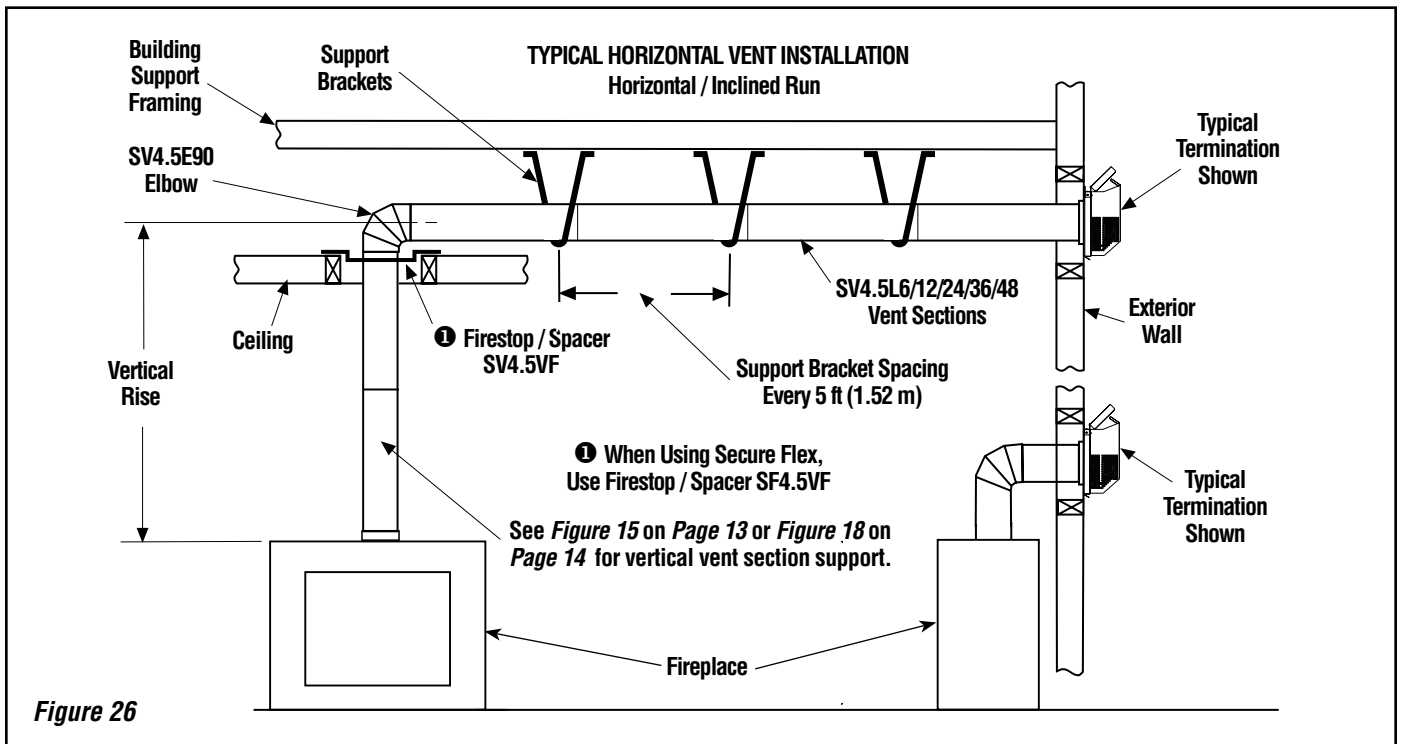
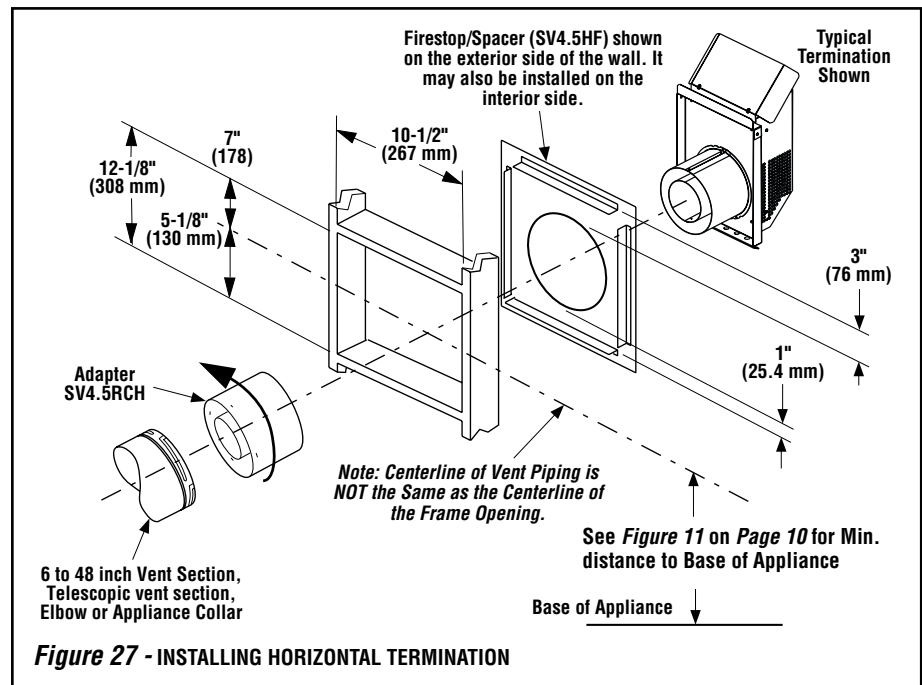

Figure 26
Figure 27 - INSTALLING HORIZONTAL TERMINATION
G. Continue installation of horizontal/inclined sections - Continue with the installation of the straight vent sections in horizontal/inclined run as described in **Step C**. Install support straps every 5 ft. (1.52 m) along horizontal/inclined vent runs using conventional plumber's tape. **See Page 18, Figure 26. It is very important that the horizontal/inclined run be maintained in a straight (no dips) and recommended to be in a slightly elevated plane, in a direction away from the fireplace of 1/4" rise per foot (20 mm per meter) which is ideal,** though rise per foot run ratios that are smaller are acceptable all the way down to at or near level. Use a carpenter's level to measure from a constant surface and adjust the support straps as necessary.
Figure 26 on Page 18, and Figures 27 to 32 on Pages 19 through 22 and their associated Horizontal Vent Table which illustrate the various horizontal venting configurations that are possible for use with these appliances. Secure Vent™ pipe applications are shown in these Figures; Secure Flex™ pipe may also be used. A Horizontal Vent Table summarizes each system's minimum and maximum vertical and horizontal length values that can be used to design and install the vent components in a variety of applications.
See Figure 26. **It is very important that the horizontal/inclined run be maintained in a straight (no dips) and recommended to be in a slightly elevated plane, in a direction away from the fireplace of 1/4" rise per foot (20 mm per meter) which is ideal, though rise per foot run ratios that are smaller are acceptable all the way down to at or near level.**
K. Attach termination adapter - Attach the adapter (adapter - SV4.5RCH - provided with the termination) to the vent section or telescoping vent section, elbow or appliance collar as shown in **Figure 27** in the same manner as any SV4.5 vent component (refer to **Step E**).
L. Install Firestop/Spacer at exterior wall - When using the termination, install SV4.5HF (**Secure Vent™**), SF4.5HF (**Secure Flex™**) Firestop/Spacer over the opening at the exterior side of the framing, long side up, with the 3 inch spacer clearance at the top as shown in **Figure 27**, and nail into place.